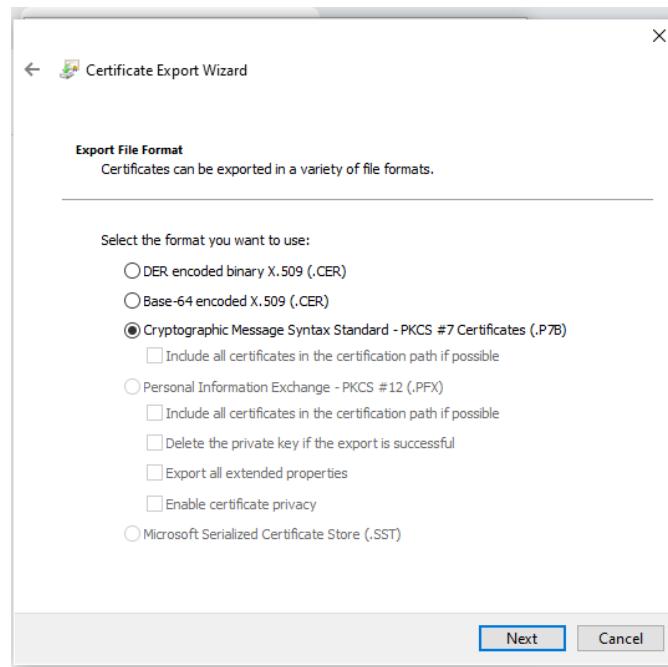

Figure 67: Select the P7B format to export certificate
6. To export the certificate in the correct format, select **Cryptographic Message Syntax Standard – PCCS #7 Certificates (.P7B)** as shown in Figure 67.